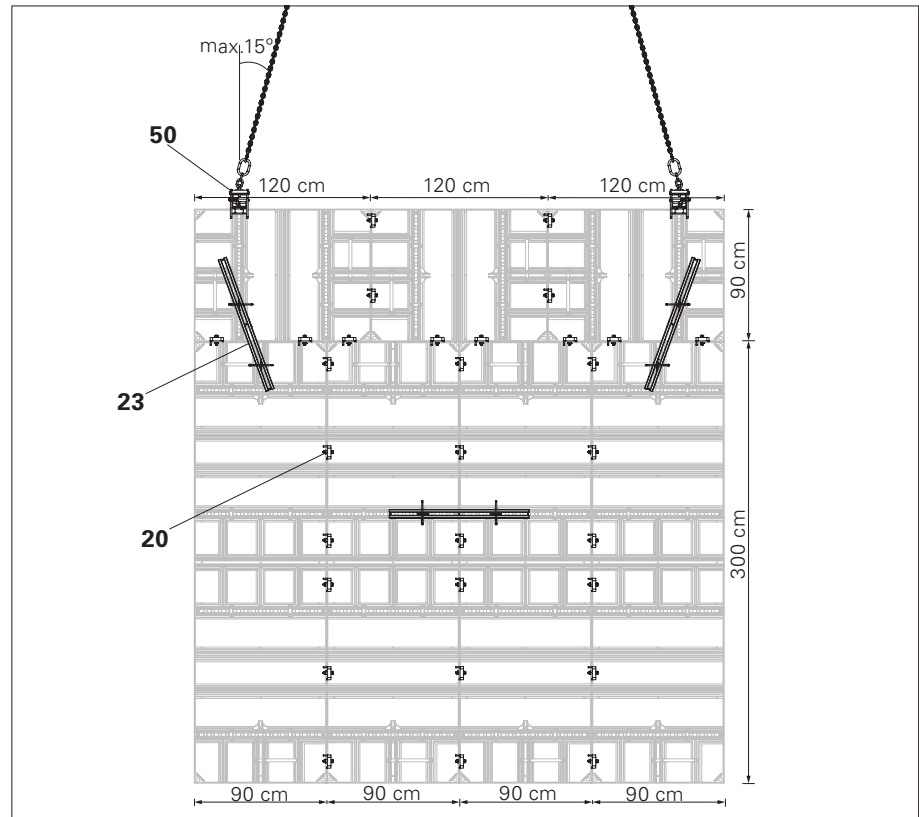

Fig. C6.01
Connect panels by means of Wedge Clip HSA (20) and Compensation Waler HSA (23). (Fig. C6.01)